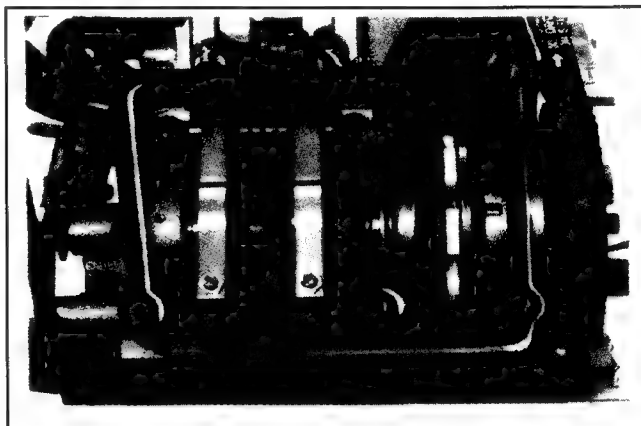

Figure 9-28. #2 Side Camshaft/Rocker Arm Detail.
1. Turn the camshaft until tension is off the rocker arms and the coiled spring pin is visible in the governor body. See Figure 9-28.